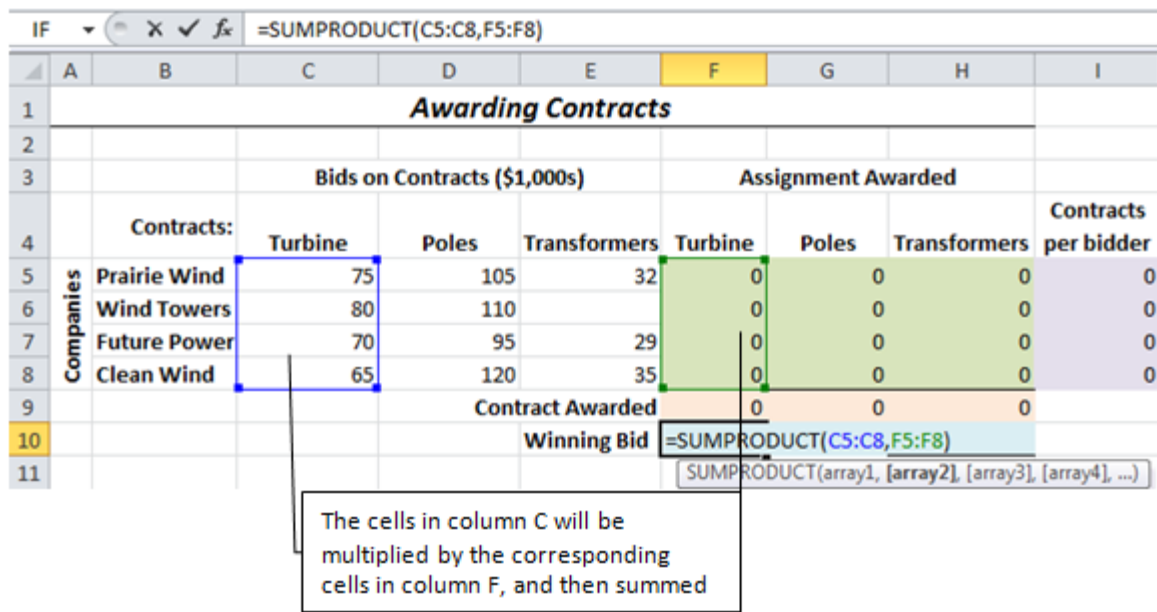

Figure 11.23. The SUMPRODUCT function is used to multiply two columns of numbers and sum the results.
5. In cell F10, type **=SUMPRODUCT(C5:C8,F5:F8)** and compare your screen with Figure 11.23. This function multiplies the bids in C5:C8 by the zeros or 1s in F5:F8 and then sums the result to determine the cost of the bid awarded for the turbine project. Press Enter to complete the function.